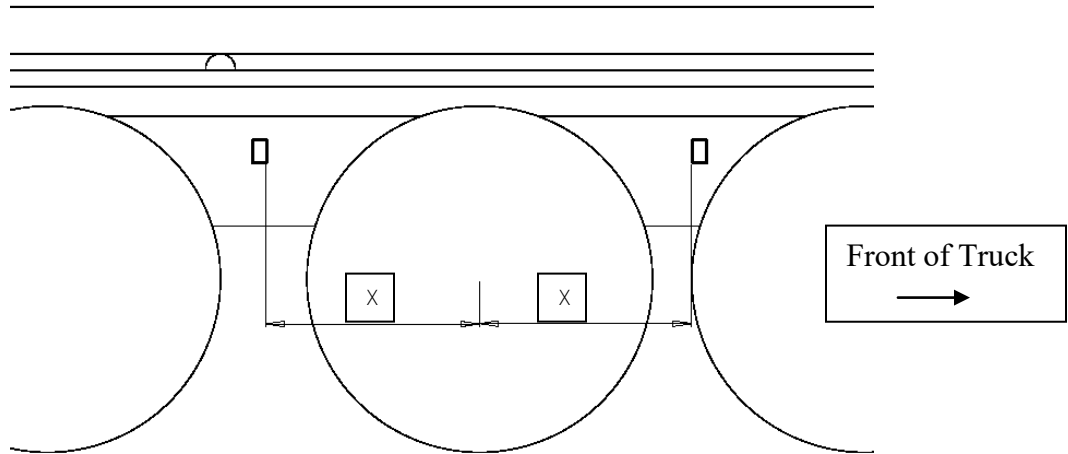

Figure 5
- 3) Front and rear mounting leg must be spaced evenly around front drive axle. (See Fig. 5 measurement may vary)
- 2) Measure from the top of the bed down a minimum of 6 1/2" and put a mark on all 4 up-right legs, as shown above in Fig. 5. This height may vary based on clearance issues.